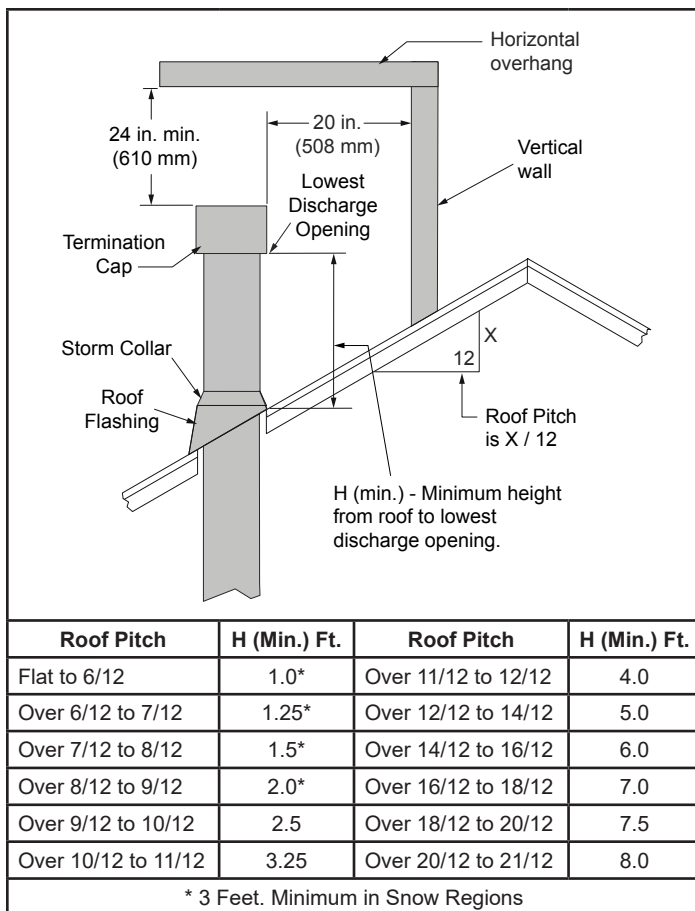

Figure 3.18 - Minimum Height from Roof to Lowest Discharge Opening
- The maximum angular variation allowed in the system is 270°, Figure 3.18
- For the minimum height of the vent above the highest point of penetration through the roof, Figure 3.18.